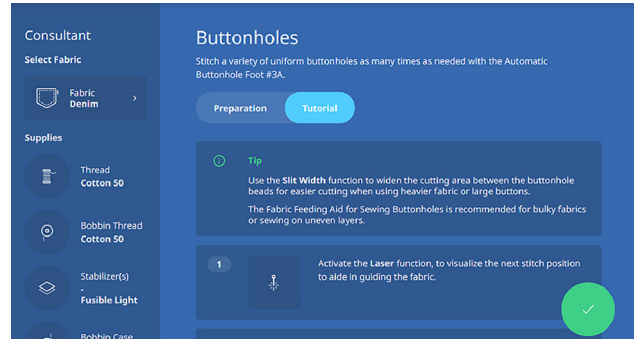

Fig. 31
3. Back at the top, toggle to the Tutorial Section (Fig. 31).